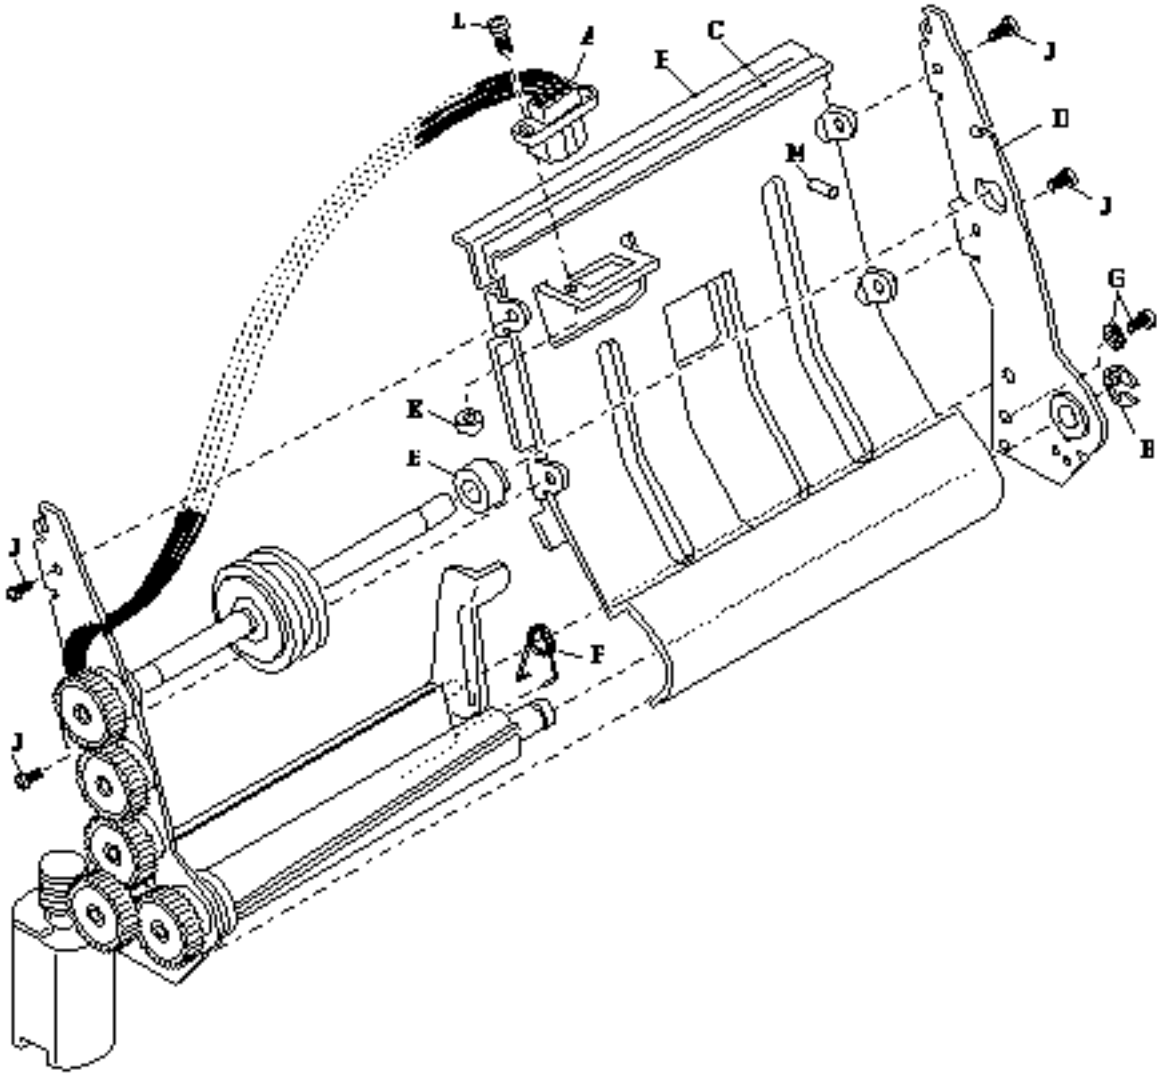

Figure 13: Transport-Auto Cutter Assembly (1 of 2)
Do the following steps to remove the Right-Side Frame (D) from the Transport-Auto Cutter Assembly. Refer to figure 13 on the facing page and figure 14 on the next page.
You can now separate the Transport Sensor (A, figure 13) and cable from the Transport-Auto Cutter Assembly. Keep track of the cable routing for reinstalling the Transport Sensor.
4. Remove the Upper Paper Guide (C, figure 13) by unsnapping it from the Left-Side Frame (G).
Do not bend the Paper Guide Pin (M, figure 13) that connects the Upper Paper Guide to the Lower Paper Chute (C, B, figure 13). When reinstalling the Upper Paper Guide, hook it to the Left-Side Frame at both ends.
10. Remove the Lower Paper Chute (B, figure 13) from the Left-Side Frame (G) by unscrewing the two screws (J, figure 13) with a #0 Phillips screwdriver.